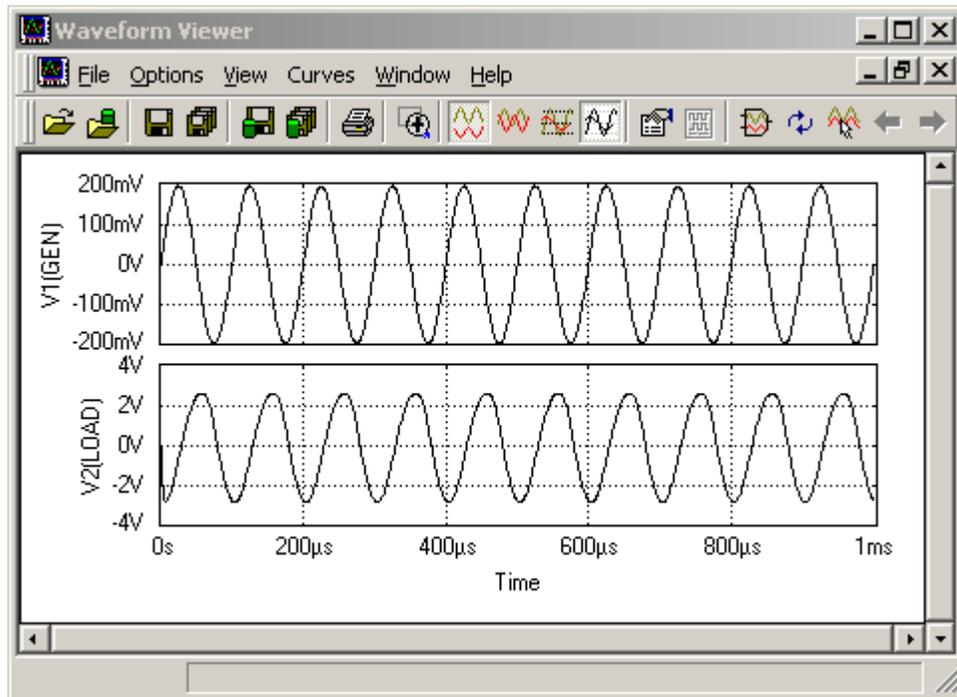

Fig: 2.31 Waveform Viewer
**CURVES** add new curves and give a name to the new curve. The operation that is explained below is the same for both editing curves and adding new curves. Given below is a brief description of the parameters provided in the Fig.2.31.